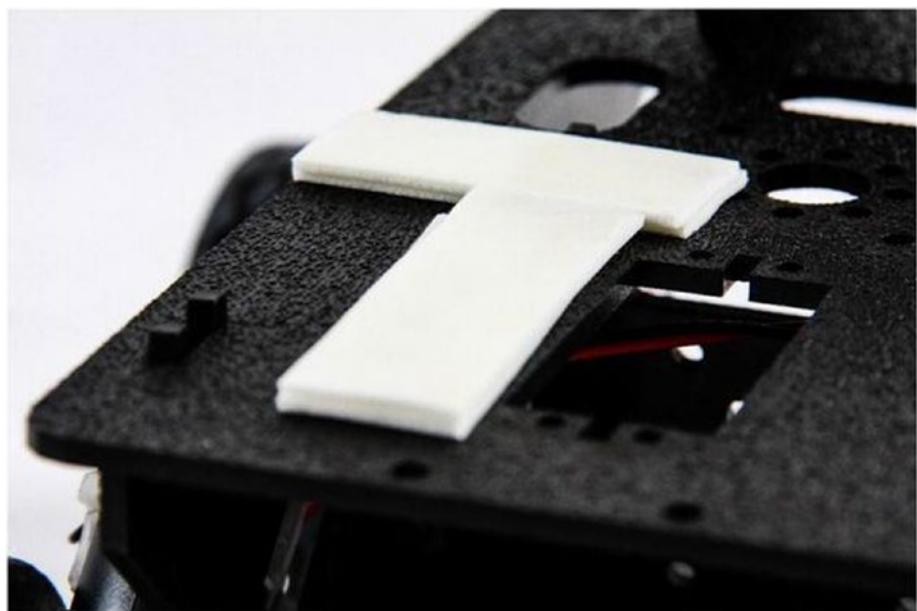

Figure 7-12. Double layer of mounting tape for the breadboard
2. Stack two pieces of foam tape on top of each other and place them on the top plate. Use a second set of stacked foam tape to form a T (see Figure 7-12). This adds stability.